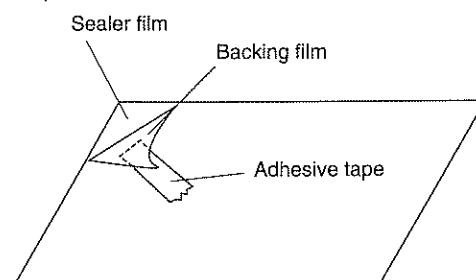

Figure C-10. Sealer film
3. Re-install door panel to door frame by fitting ten (10) tabs of door frame to ten (10) holes of door panel.
4. Hold the door panel to door frame with the four (4) screws.
5. Put sealer film on door panel. Refer to "Sealer Film" and figure C-10, on how to handle the new film.
6. Catch two (2) pins of door panel on two (2) hole of upper and lower oven hinges.
1. Put the adhesive tape on the backing film of the sealer film as shown in Fig. C-10.